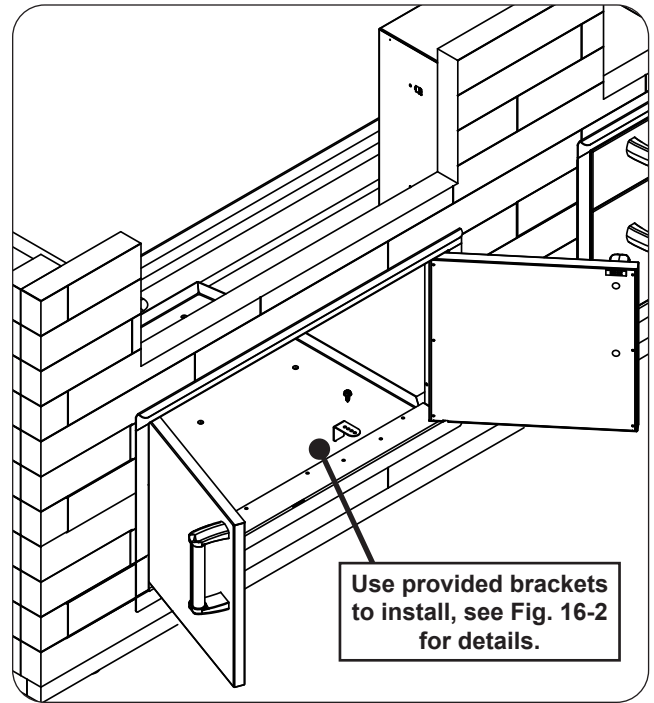
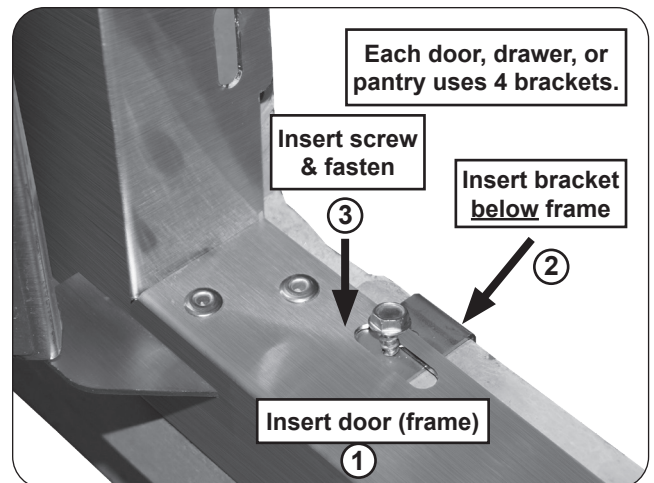
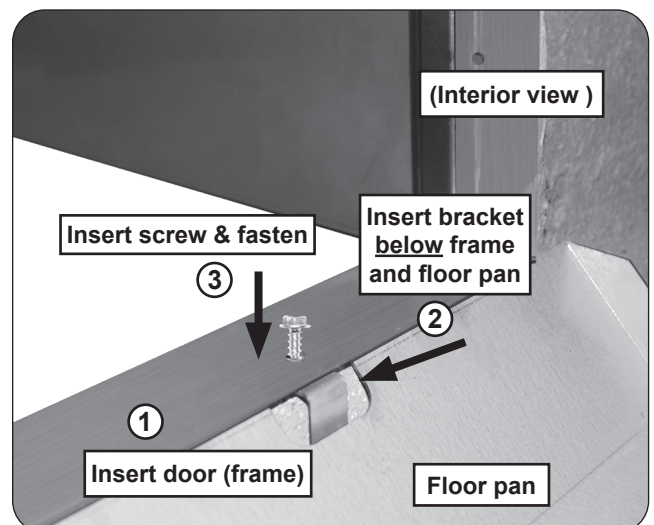

Fig. 16-1 Door/drawer/pantry install detail
Fig. 16-2 Door/drawer/pantry install detail
Fig. 16-3 Door/floor pan install detail
1. Insert your unit completely into the appropriate opening. Ensure it is flush against the exterior wall (see Fig. 16-1, and Fig. 16-2 or Fig. 16-3, step 1).
2. The unit will have 2 oblong cutouts (or round holes) on both the top and bottom of its frame. Reach from within the island and insert a bracket where a cutout exists, **below the frame**. See Fig. 16-2 or Fig. 16-3, step 2.
Note: When installing the double door ensure the bracket is inserted **below the frame AND floor pan** (see Fig 16-3).
3. While squeezing the rear of the bracket and the front of the frame **firmly** against the concrete wall, insert a hex screw and tighten with the power drill and 5/16" hex driver (see Fig. 16-2 or Fig. 16-3, step 3). **DO NOT OVERTIGHTEN.**